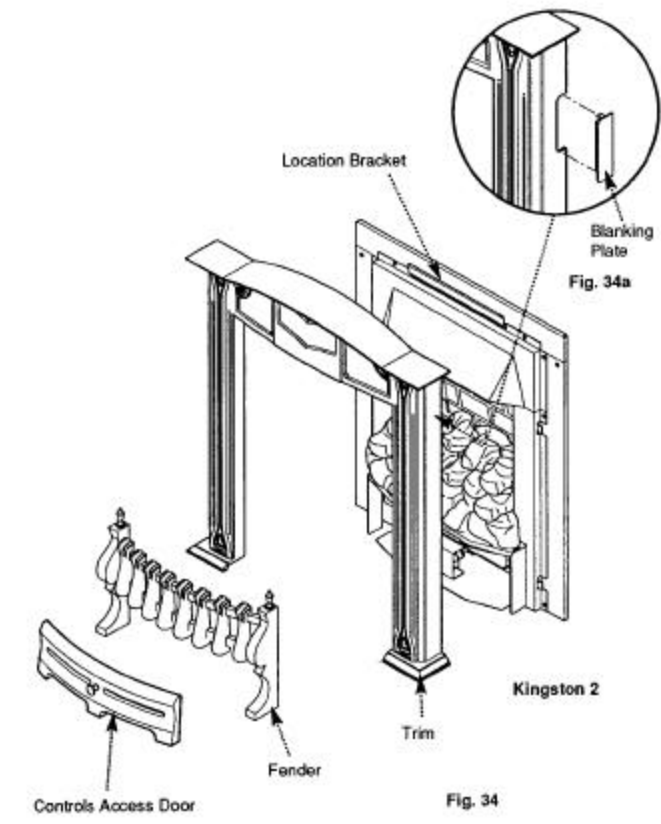

Fig. 34
8.3 Kingston 2 Models (Fig. 34)
2. Take the outercase location bracket from the kit and fasten it using the existing 2 screws to the canopy (Fig. 34). This will now mate with the bracket on the back of the trim.